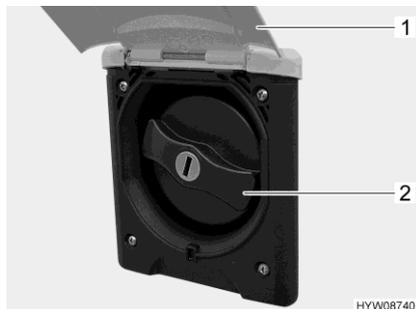

Fig. 100 Cap (drinking water filler neck)
- Swivel the external flap (Fig. 100,1) upwards.
- Turn the blue cap (Fig. 100,2) one quarter turn.